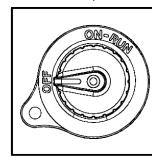

Fig 5.1C
- The grinder is equipped with a 3-state main switch: OFF, ON, RUN. (Fig 5.1C)